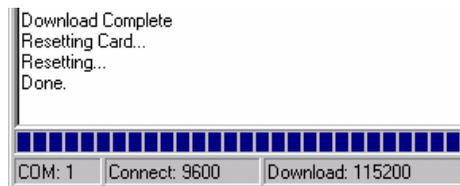

Figure 31: Upgrade Process Complete
7. The receiver should finish downloading and reset. The process is complete when “Done.” is displayed in the main display area, see *Figure 31*.